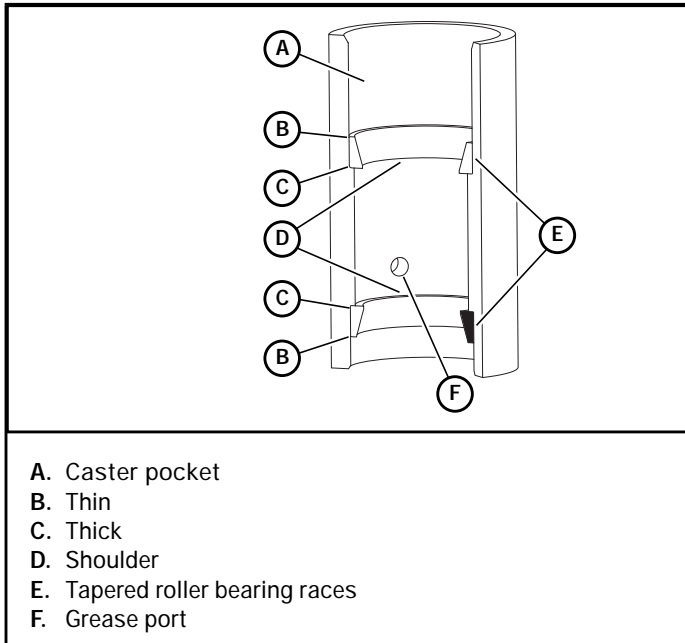

Figure 6-24
7. Make sure the bearings outer race is correctly aligned before pressing the outer race into the fully-seated position against the caster pocket shoulder. Figure 6-24